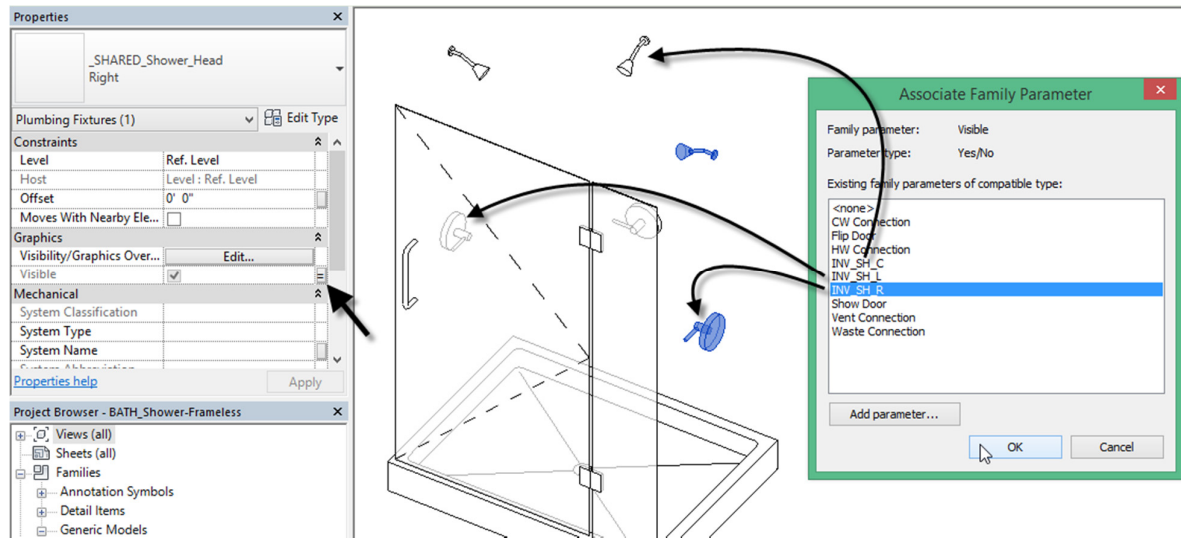

Figure 25—Assign a visibility parameter to each instance
2. Select each instance and associate a family parameter to the Visible setting (see Figure 25).